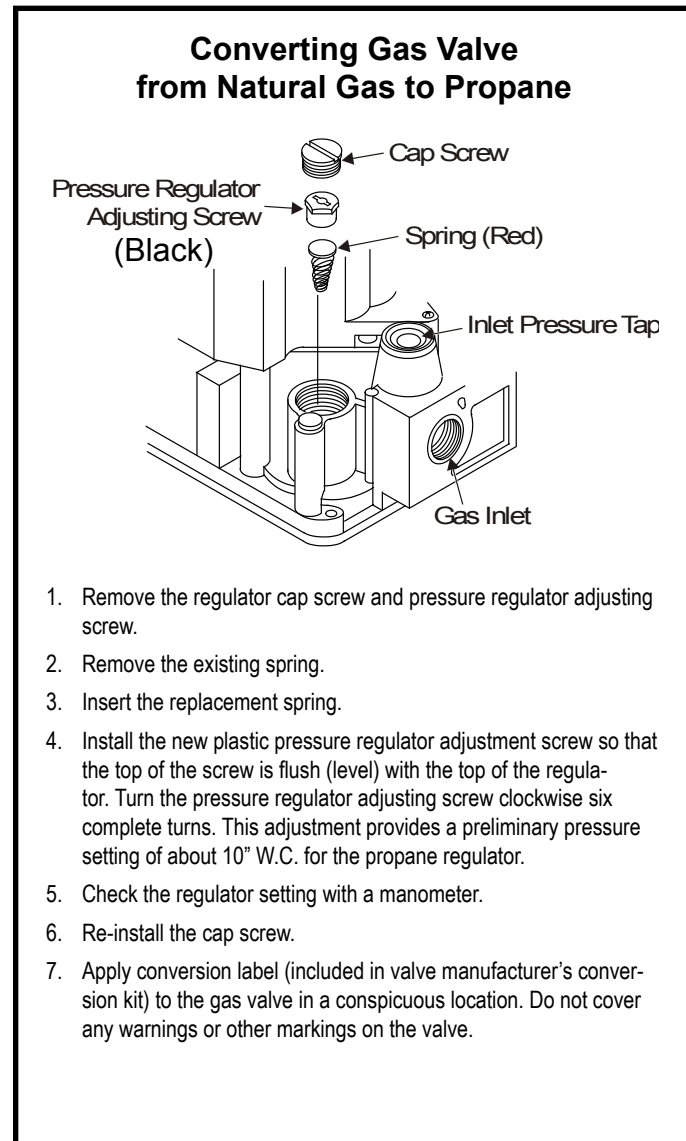

Figure 2
6. Using Figure 2 and the valve manufacturer's instructions included